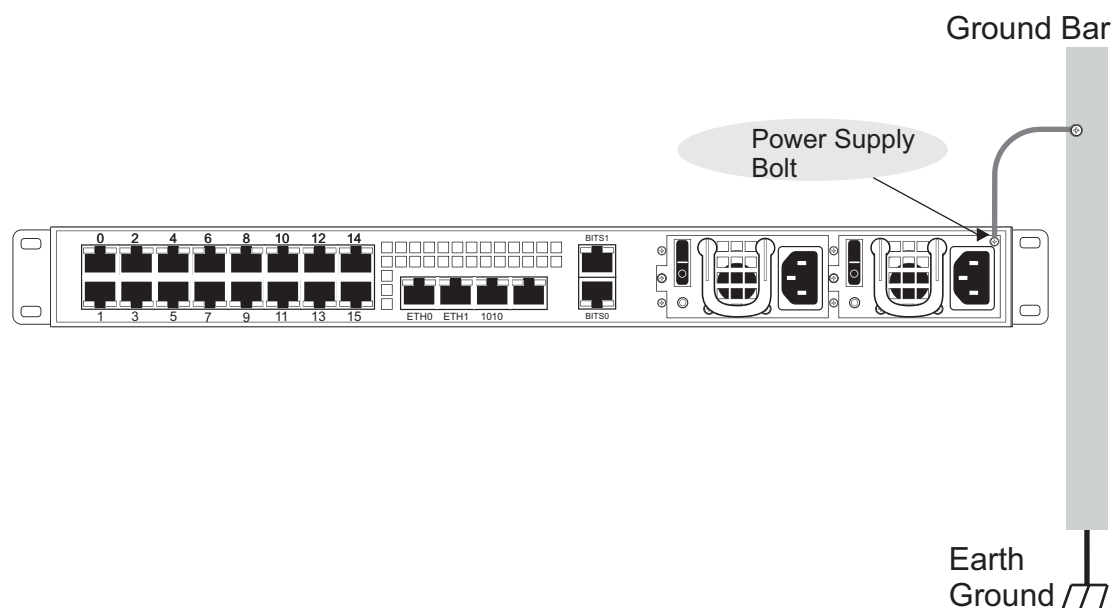
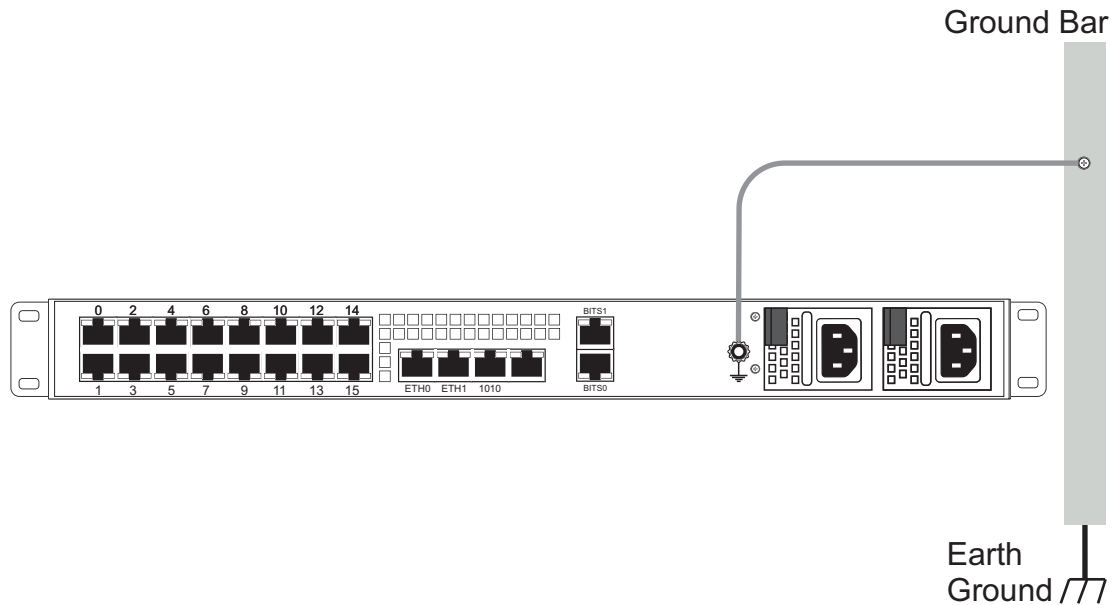

Figure 5.2 Chassis Ground Connection- 7800 TMS Earlier Models
Figure 5.3 Chassis Ground Connection- 7800 TMS Later Models
As a standard safety practice, the chassis of the 7800 TMS must be properly grounded to protect against any contact with an electrical fault condition. It is recommended that the chassis be connected to earth ground. When the 7800 TMS is installed in an equipment rack, connect the ground wire between the ground lug of the unit and the equipment rack ground bar (figure 5.3 on page 41), or in the case of earlier 7800-TMS models (figure 5.2 on page 40), connect a ground wire between the power supply mounting bolt and the equipment rack ground bar.
- Do NOT daisy chain the ground between equipment. Use a ground bus bar, as show in Figure 5.2 on page 40.
1. Connect one end of a ground wire to the power supply bolt of the 7800 TMS. See figure 5.2 on page 40.
1. Connect one end of a ground wire to the chassis ground lug of the 7800 TMS. See figure 5.3 on page 41.